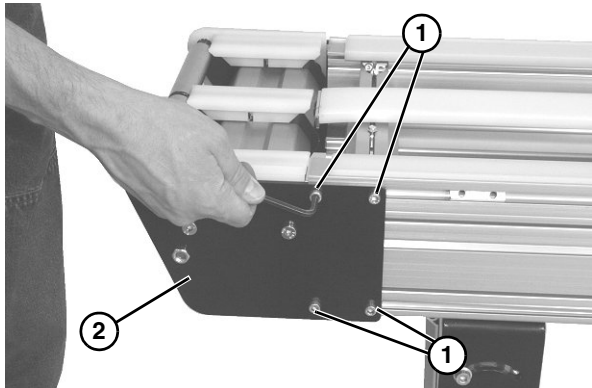

Figure 46
2. On one side of conveyor, loosen the four socket head screws (**Figure 46, item 1**). Repeat on opposite side.
3. Remove idler tail assembly (**Figure 46, item 2**).